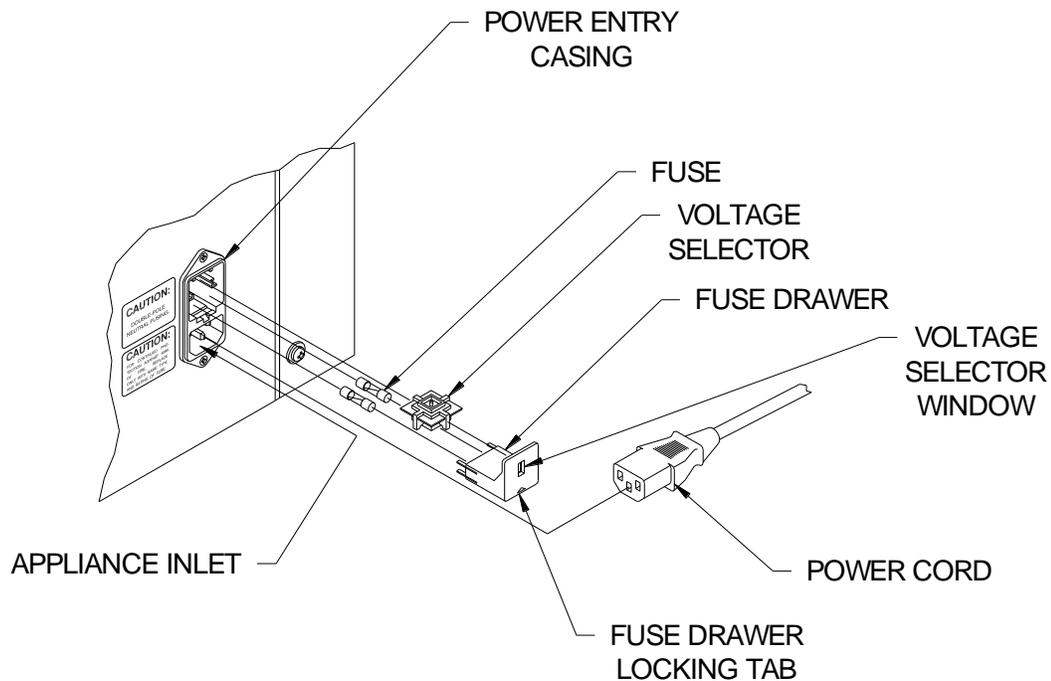

Figure 3.1 -- FD 260-10 Power Connection
Read the current voltage setting through the **VOLTAGE SELECTOR WINDOW** on the input end of the FD 260-10 (refer to **Figure 3.1**). Use the following instructions to change the voltage setting:
The FUSE DRAWER located on the input end contains two LINE FUSES (refer to **Figure 3.1**). The neutral and hot lines of power are fused. Both LINE FUSES must be intact for the FD 260-10 to operate properly.
1. Plug the POWER CORD into the APPLIANCE INLET on the input end (refer to **Figure 3.1**).